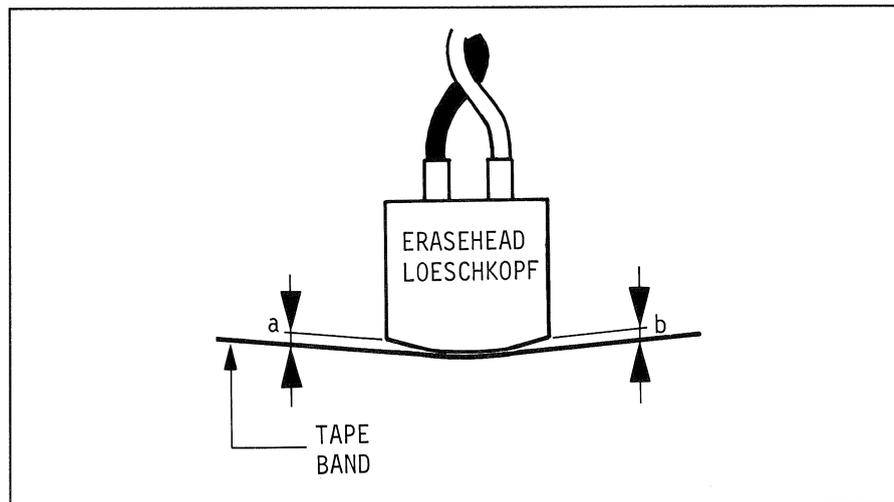

Fig. 30
- Remove the head cover (2 screws, hexagon-socket-screw key 3 mm).
- Align the head, viewed from the top, in such a way that the distance [a] from the left-hand [b] and right-hand edge of the head to the tape is identical (Fig. 30).